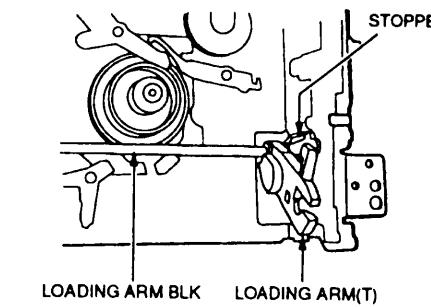

Fig 5.
- 1: Release the stopper on the right side end of the LOADING ARM BLK's shaft as shown in Fig 5, by pressing the stopper tab with a flat head (-) screw driver. Then remove the shaft's right end from the bracket.
- 2: Hold the LOADING ARM (T) and then pull out the shaft's left end from the bracket.
- Take special care when removing it to avoid damaging the pins (refer to Fig 5).